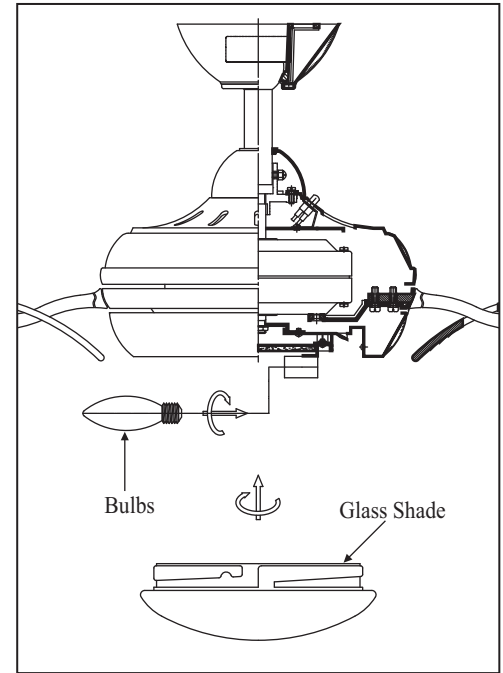

Figure 19
4. Install 3 x 40W candelabra bulbs (not included). (Fig. 19)
5. Raise the glass shade up against the light kit and secure it to the fan by turning glass counterclockwise until snug. DO NOT OVERTIGHTEN. (Fig. 19)